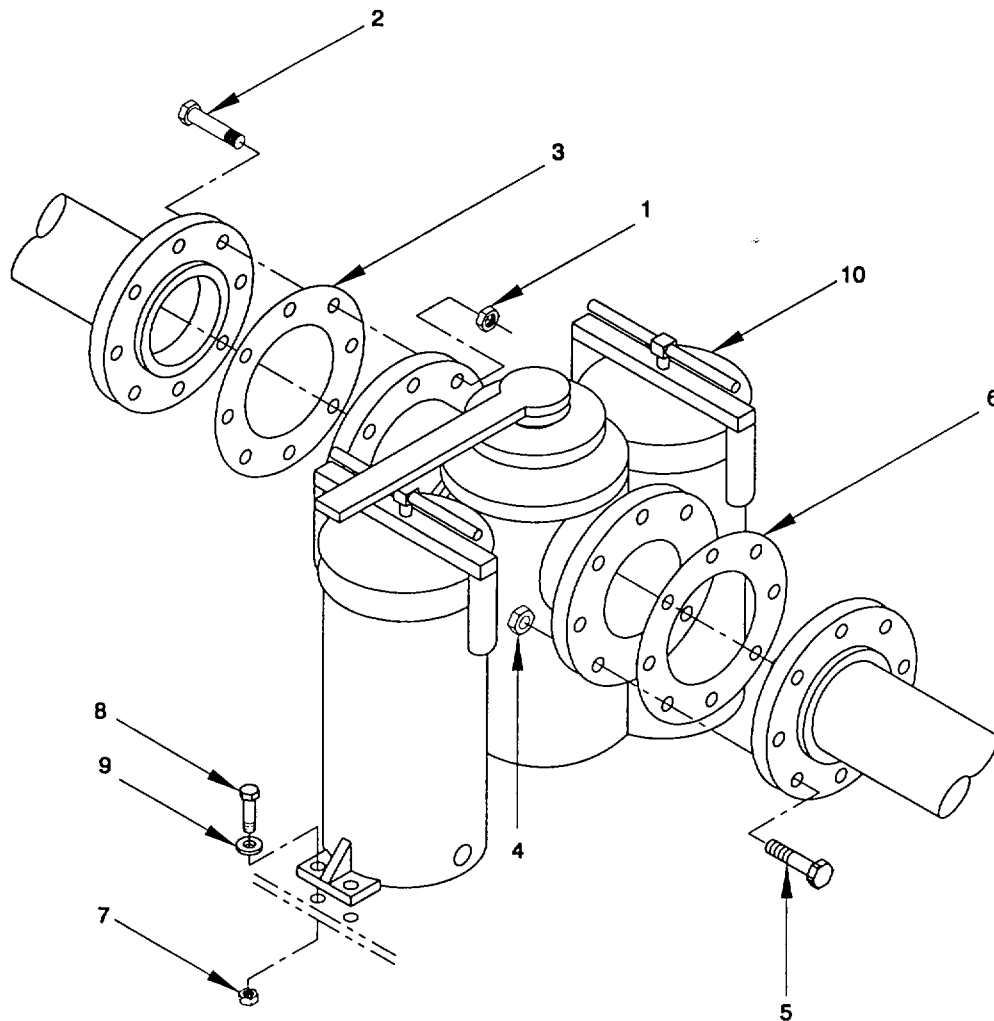

Figure 2-3. Duplex Strainer, Engine Cooling System, Remove/Install.
b. *Remove.* (figure 2-3)
- (1) Remove nuts (1), capscrews (2) and gasket (3) from flange.
- (2) Remove nuts (4), capscrews (5) and gasket (6).
- (3) Remove nuts (7), capscrews (8), washers (9) and remove duplex strainer (10). For repair of the duplex strainer, refer to next higher level maintenance, paragraph 3-7.
c. *Install.* (figure 2-3)
- (1) Install new duplex strainer (10) and secure with washers (9), capscrews (8) and nuts (7).
- (2) Install new gasket (6), capscrews (5) and nuts (4).
- (3) Install new gasket (3), capscrews (2) and nuts (1).